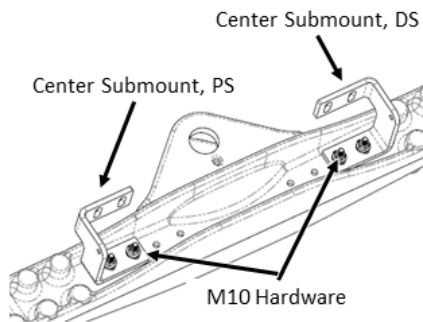

Figure 2e: Center Submounts (Viewed from Bottom)
5. Re-install the OEM Harness Bracket to the upper rear of OEM Center Tow Crossmember as shown in Figure 2b and Install the Center Submounts at the bottom of OEM Center Tow Crossmember as shown in Figures 2e and 2f. Use the provided M10 Hardware to fasten loosely.